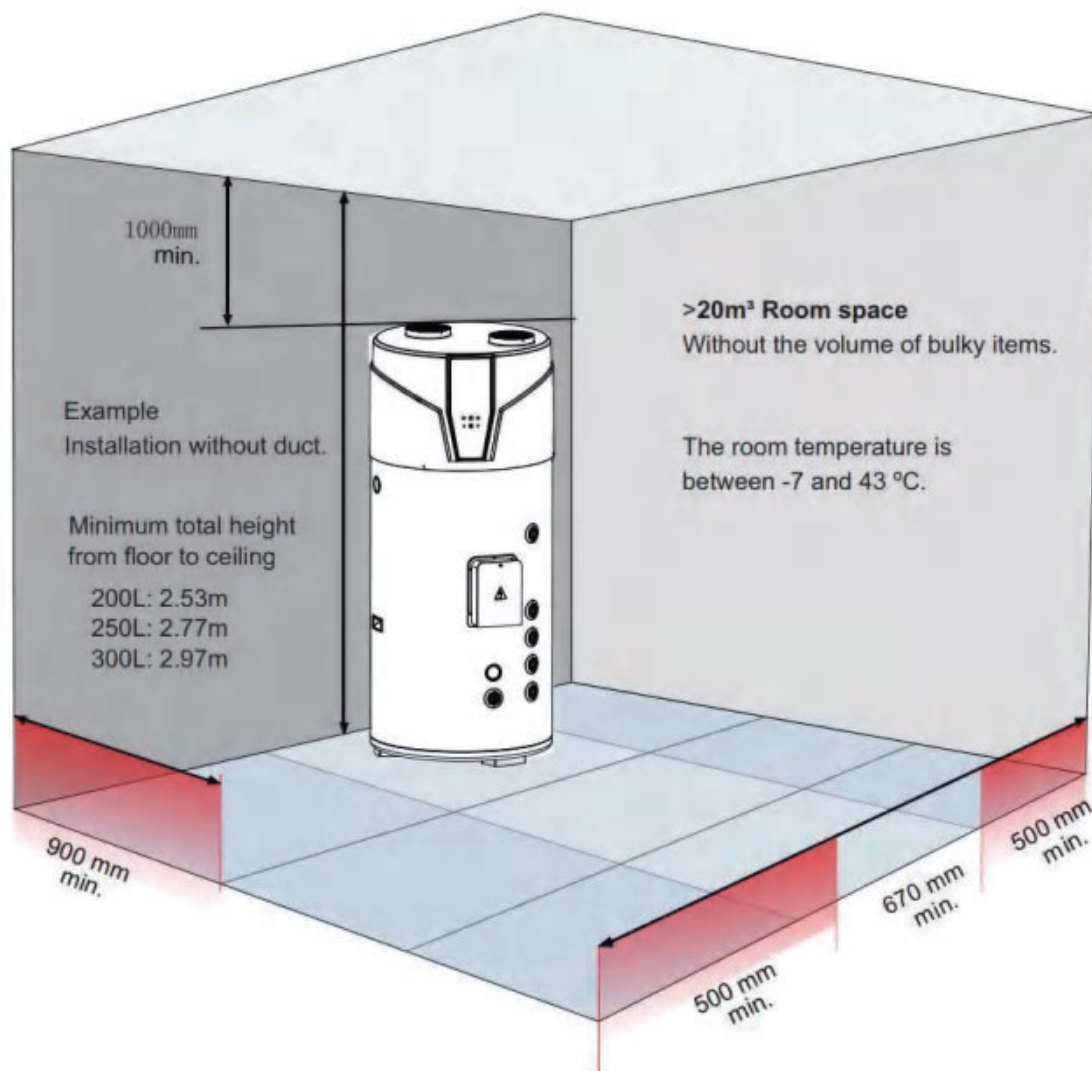

Fig.4 Recommended installation and maintenance space
- Reserve space for installation and maintenance shown as Fig.4.